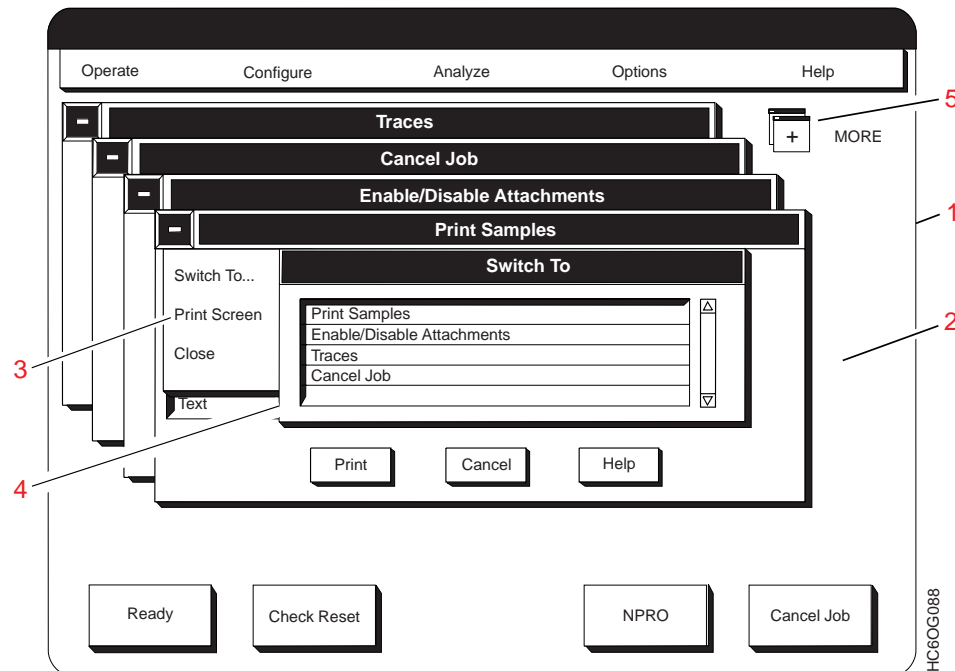

Figure 9. Procedure Windows in Cascade Format
- A selection list box with many items from which you can select. See (4) in Figure 9 on page 40 for an example of a pop-up window with a selection list box.
Displays a pop-up window that lists all of the procedures that are currently open (for example, see (4) on Figure 9 on page 40). Selecting any procedure name from the list moves the window for the procedure to the front.
Figure 9 shows: